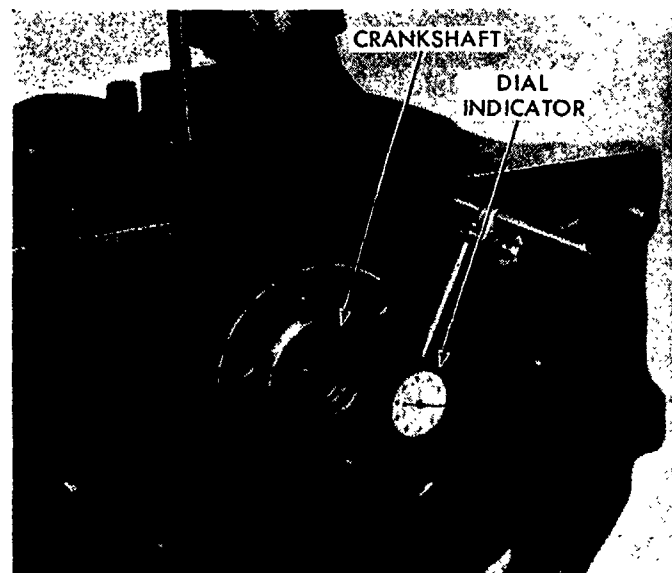

Figure 73
7. Check the crankshaft end play. Install a dial indicator so that the contact point rests against the rear flange of the crankshaft, Figure 73. Force the crankshaft toward the rear of the engine. Set the dial on zero, then pry the crankshaft forward and note the reading on the dial. If the end play exceeds the limits, page 61, install a new thrust bearing liner. If the end play is less than the specified limit, inspect the thrust bearing surfaces for burrs, scratches, or dirt. If the thrust surfaces are not defective or dirty, re-align the thrust bearings following the above procedure.